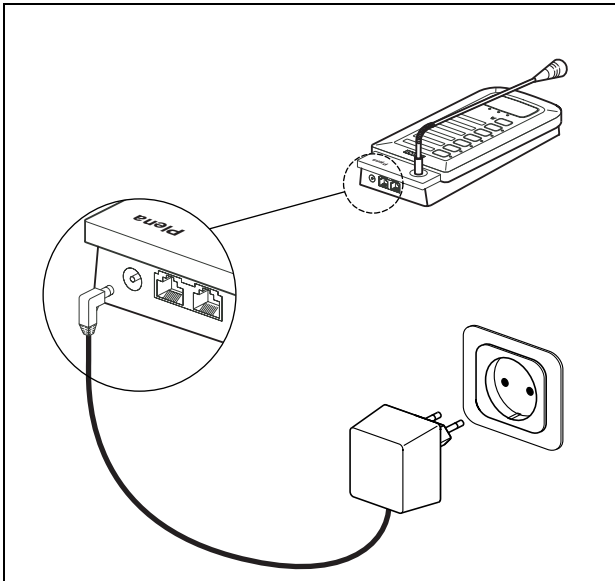

figure 7.2: Connecting a power supply
If the cable between the voice alarm controller or the previous call station is longer than 100 m, the call station must be connected to a 24 V(DC) power source. See figure 7.2 for connection details.